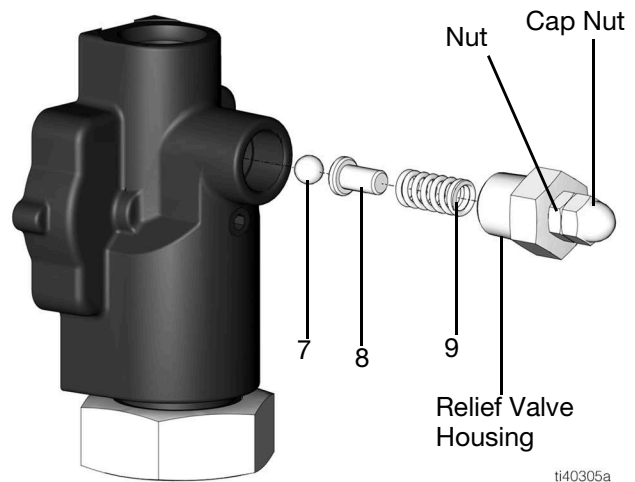

FIG. 43
5. Remove the relief valve housing (FIG. 43).
6. Remove the spring (9) (FIG. 43).
7. Remove the spring guide (8) (FIG. 43).
8. Remove the relief ball (7) (FIG. 43).
1. Place the relief ball (7) into position in the pump housing (see FIG. 43).
2. Replace the spring guide (8) (see FIG. 43).
3. Replace the spring (9) (FIG. 43).
4. Tighten the relief valve housing into the pump housing (FIG. 43).